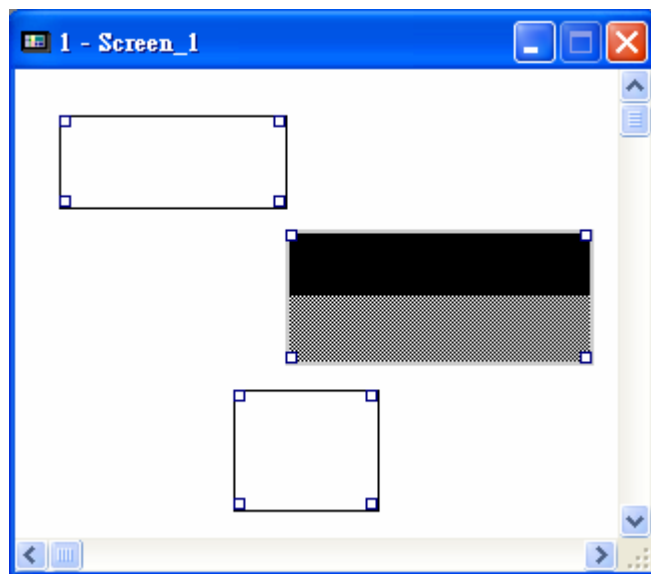

Figure 28. Step 1
1. Press [Shift] and left-click on all objects which be aligned or made same size. See Figure 28.